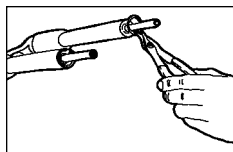

Fig. 8
2. Remove the snap rings at the bottom of the upper tubes with small tip internal snap ring pliers (see Fig. 8).